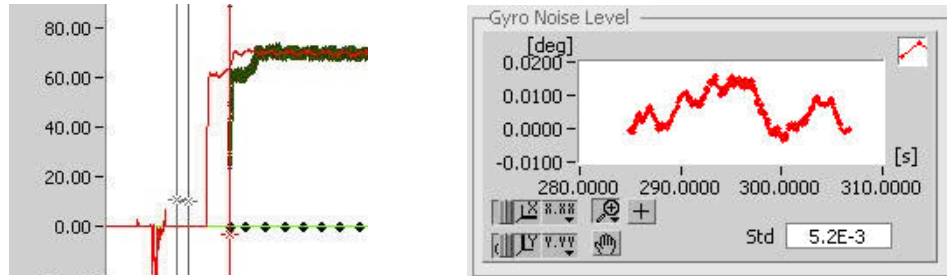

Figure 9: Selection and Gyro Noise Level result
2. Calculate the gyro noise level for a part of the measurement to be selected using the cursors. Normally you select the part just before the start of the rotation when the antenna is expected to be at standstill. Now click the  **Gyro Noise Level Analysis** button and the figure gives you a good indication of the stability of the Gyroscope (example in figure 9). The purpose is twofold: